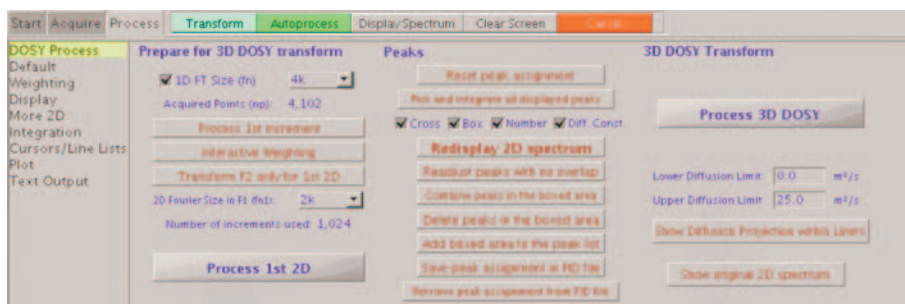

Figure 56. Absolute Value 3D-DOSY Process Panel
- c. Select the **DOSY Process** panel, see Figure 56.
8. Use the 3D DOSY Transform tools on the DOSY Process page, see Figure 56: